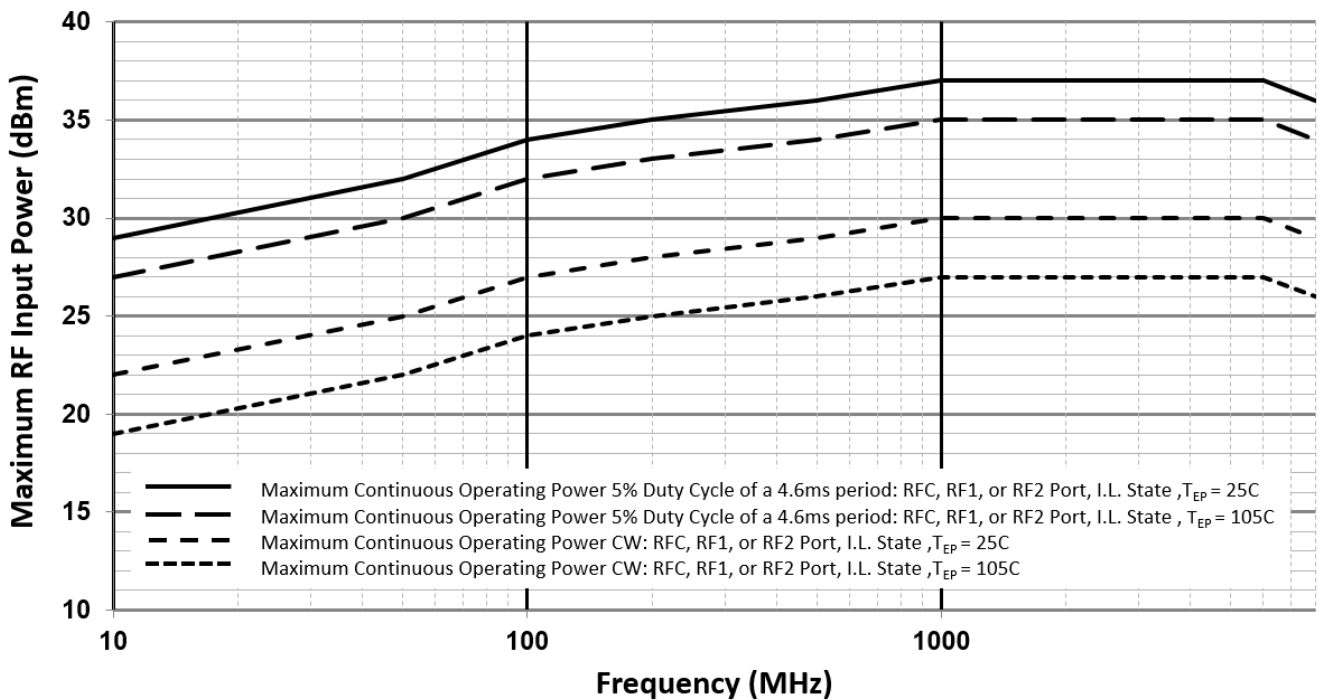

Figure 3. Maximum RF Input Operating Power vs. RF Frequency ( $Z_s = Z_L = 50\Omega$ )
2. Levels based on:  $V_{CC} = 2.7V$  to  $5.5V$ ,  $100MHz \leq f_{RF} \leq 8GHz$ ,  $Z_s = Z_L = 50\Omega$ . See Figure 3 for power handling derating vs. RF frequency.
3. The input 1dB compression point is a linearity figure of merit. Refer to the Absolute Maximum Ratings section and Figure 3 for the maximum RF input power.